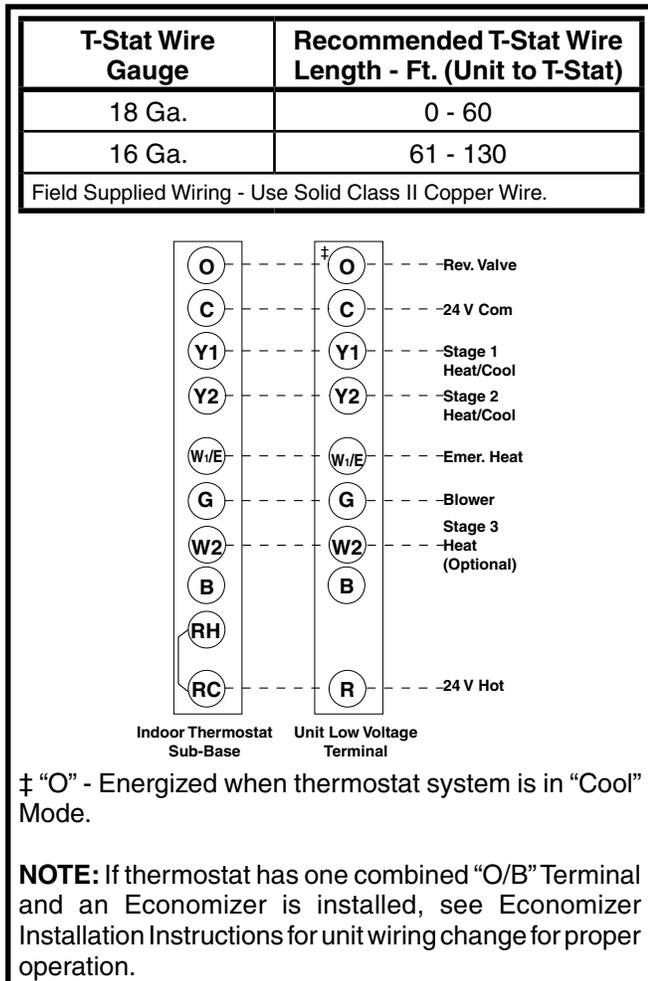

Figure 8. Typical Connections - 2 Stage Cool/3 Stage Heat T-Stat
2. Cut out the cable opening and route the thermostat cable from the unit's low voltage compartment to the thermostat location. The thermostat cable is supplied by the installer. For recommended wire sizes, see Figure 8 (page 9).
3. Connect the cable leads to the subbase or thermostat terminals and to the unit's low voltage terminal block as shown in Figure 8. System wiring diagrams are also provided on the inside of the control access panel and in Figures 11 & 12 (page 19 & 20).